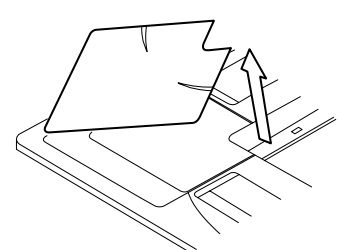

Fig. 4
- (3) Remove the service cover on the corner.
- Slide the service cover outward to remove. (Refer to Fig. 4)